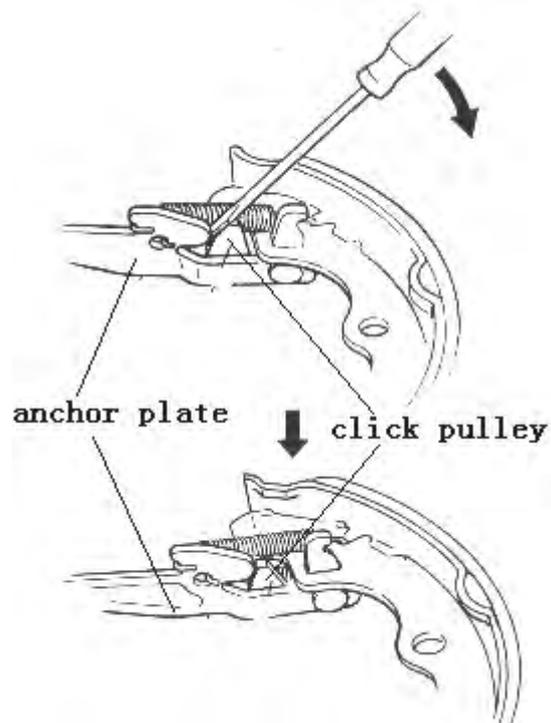

FIG. 13-37
(12) Before installing brake drum, insert screwdriver between anchor plate and click pulley so as to augment the clearance between shoe and drum. The clearance shown in FIG. 13-37 is maximum.